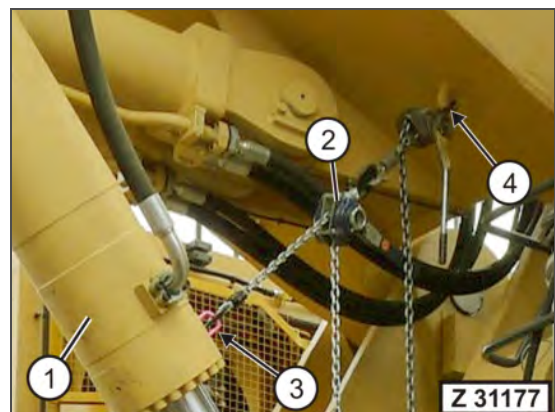

Fig. 5-187
13. Attach a chain hoist (Fig. 5-187, Pos. 2) to the fixing eye (Fig. 5-187, Pos. 4) at the boom and at the swivel hoist ring (Fig. 5-187, Pos. 3) at the boom cylinder (Fig. 5-187, Pos. 1).